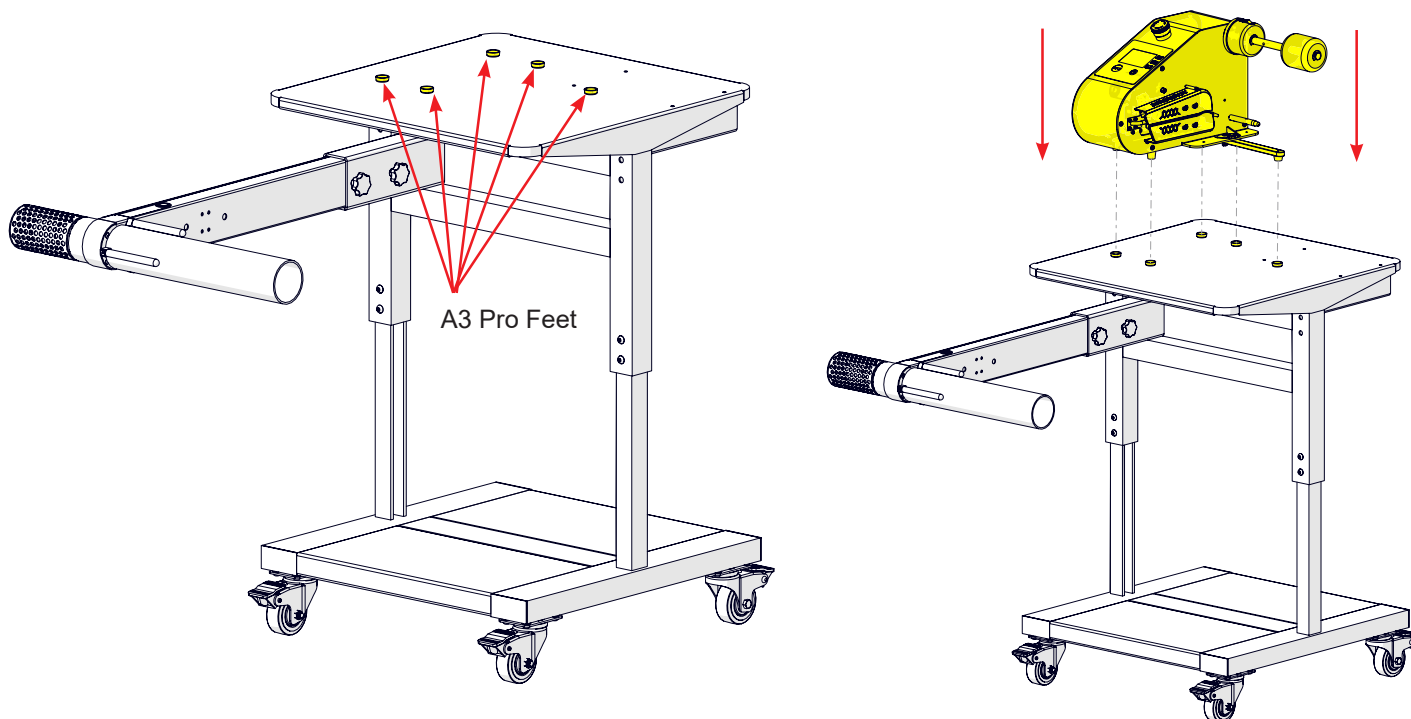
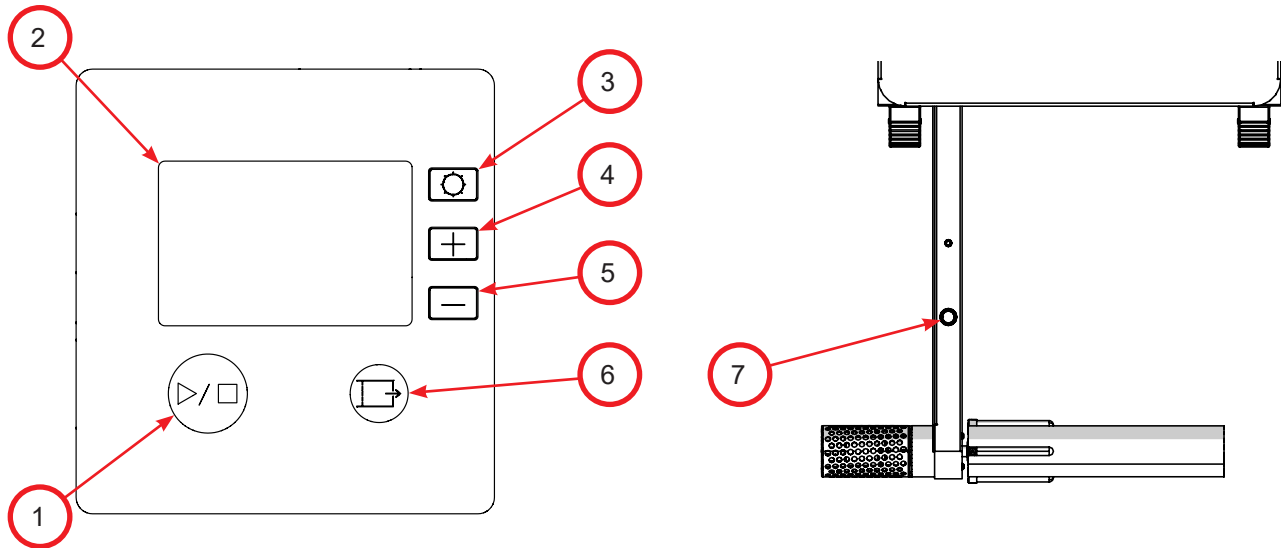

Figure 9: AirSpace A3 Pro Installation
Figure 11: Machine System Controls
10. Use one hand to pull the film while simultaneously holding the "Jog Film" button (Figure 9) to advance the film through the belts of the **IPG AirSpace A3 Pro[®]**. Stop once the film has exited the belts.
11. Press the start/stop button and allow the **IPG AirSpace A3 Pro[®]** to dispense bubbles until one (1) fully inflated sheet has extended beyond the mandrel of the **Bubble Winder** then press the start/stop button again to stop the production of bubbles.
- Finger should rest in the gap between rows two and three of the film (Figure 11).